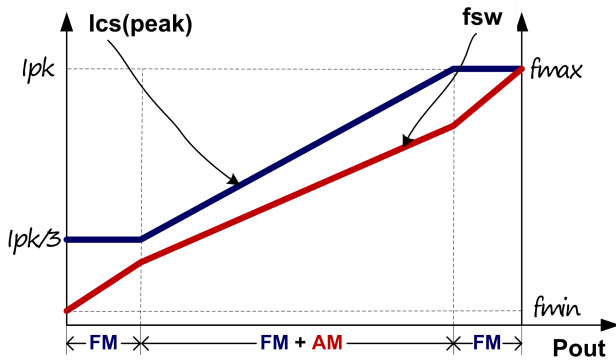

Fig.4
To meet the tight requirement of averaged system efficiency and no load power consumption, a hybrid of frequency modulation (FM) and amplitude modulation (AM) is adopted in DP1800 which is shown in the Fig 4.